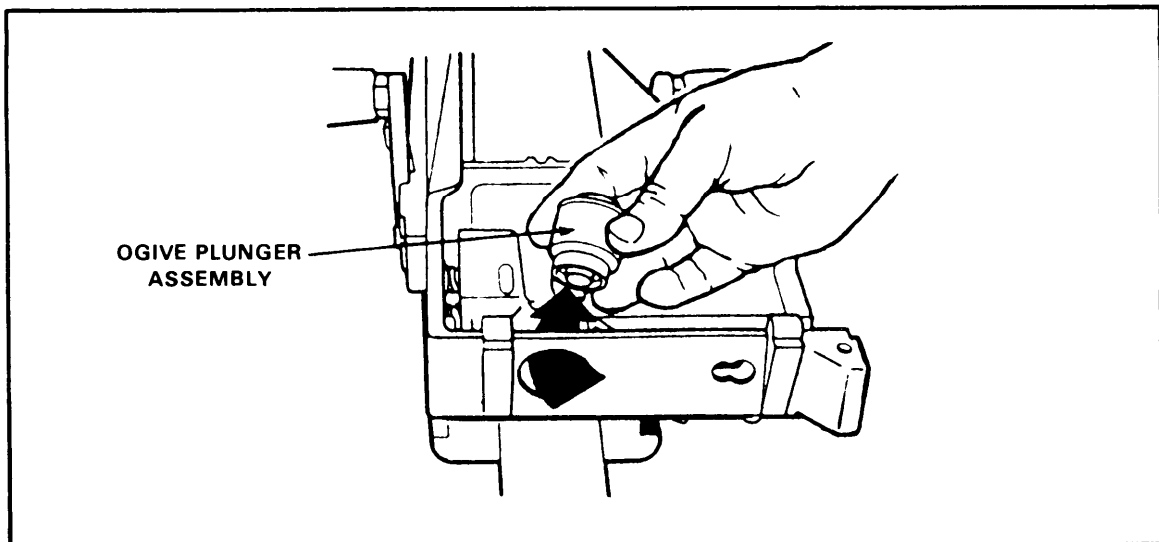

Figure 2-15. Ogive plunger
(9) Take out the ogive plunger, by pulling the ogive plunger assembly out through the inside wall of the receiver (Figure 2-15).